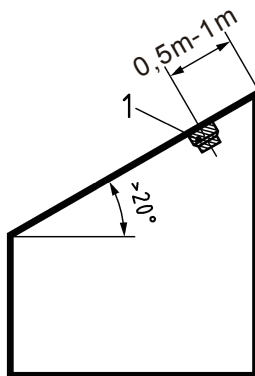
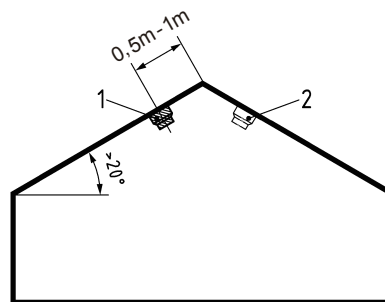
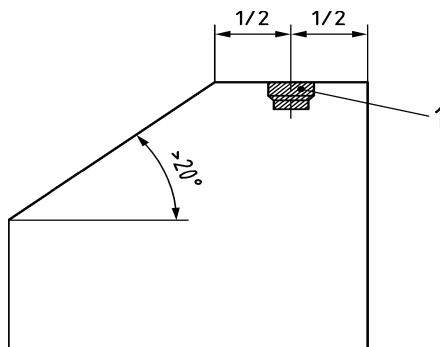
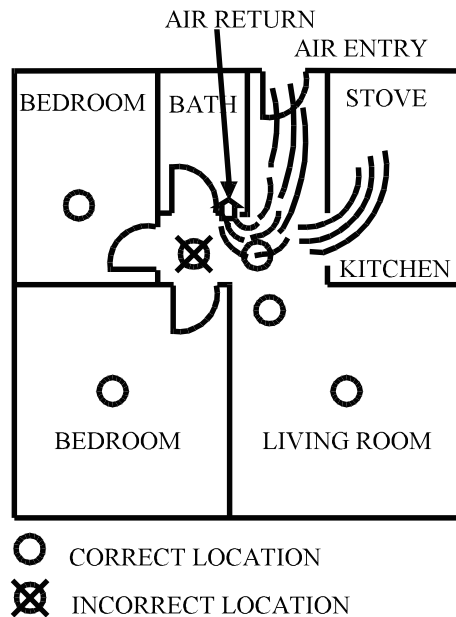

Figure 2 Mounting for ceiling with slope $> 20^\circ$
Figure 3 Mounting for gabled ceiling with slope $> 20^\circ$
Figure 4 Mounting in rooms with sloping ceiling and horizontal ceiling
Figure 5 Mounting in rooms with sloping ceiling and horizontal ceiling
- In dead air spaces, which are often at the top of a peaked roof or in apex of ceilings and walls. Dead air may prevent smoke from reaching a smoke alarm. See Fig. 2, Fig. 3, Fig. 4 and Fig. 5 for recommended mounting location.
③ Mounting